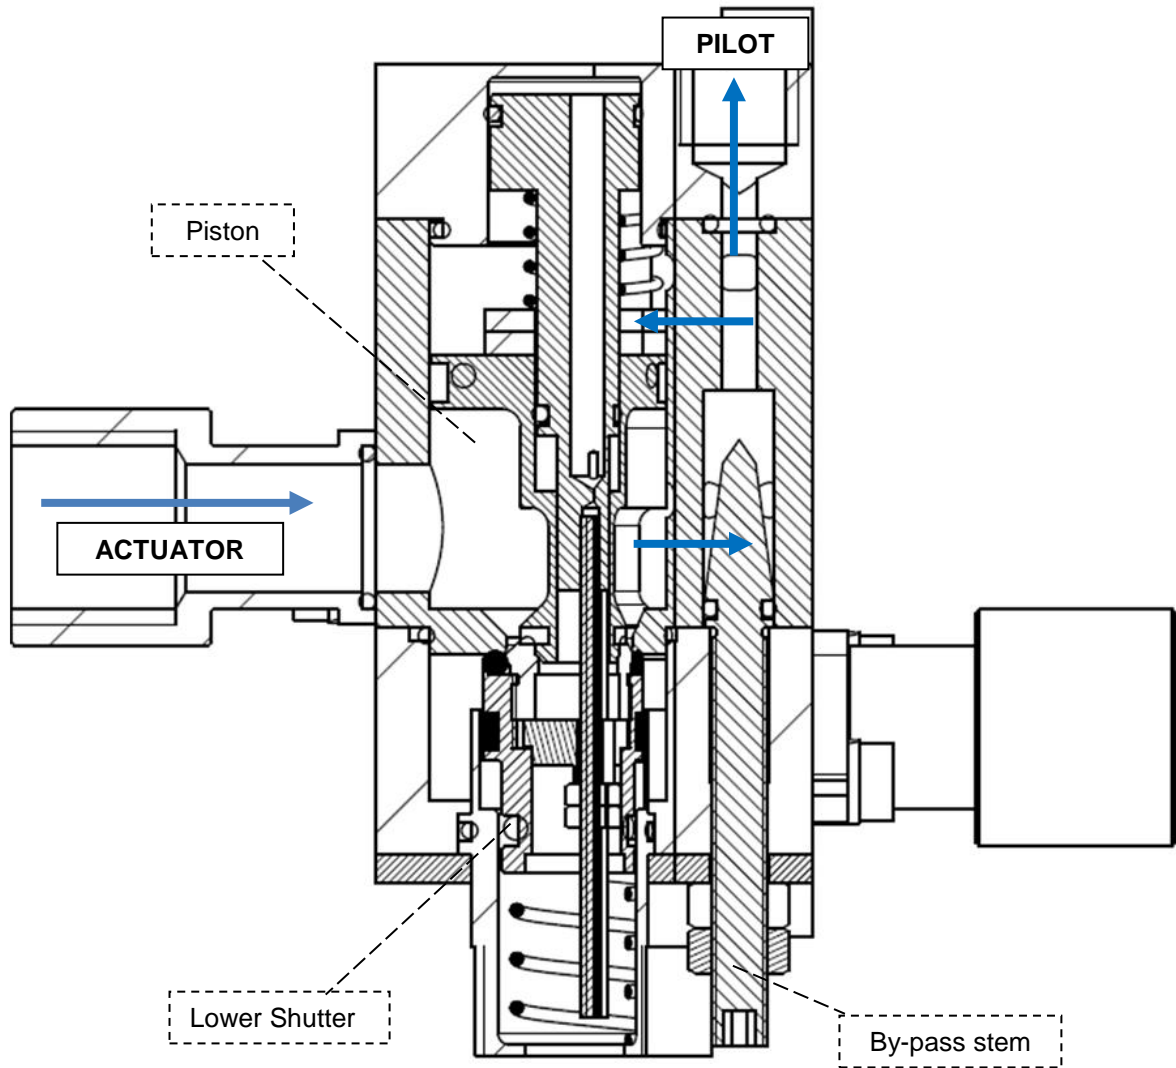

Figure 9 – Discharge setup: stand-by model
- a) if the flow rate is lower than a threshold value depending on the by-pass stem adjustment, the by-pass stem throttling can't generate a pressure drop between the two side of the piston and the working fluid goes to the pilot. This case is called "stand-by mode" (figure 9);